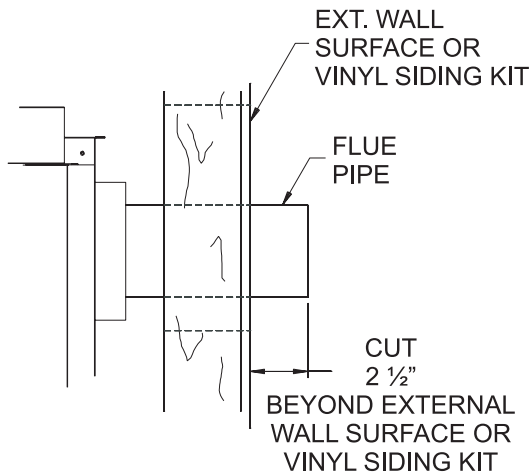

Figure 53
8. Attach the 4" (102 mm) diameter flue outlet tube onto the rigid venting system or directly to fireplace. Ensure the 4" (102 mm) diameter flue outlet tube is placed as far as possible onto the rigid venting system. Mark the 4" (102 mm) diameter flue outlet tube 2-1/2" (64 mm) beyond the vinyl siding kit or wall. See **Figure 53**. Remove the 4" (102 mm) diameter flue outlet tube from rigid venting system. When installing directly to fireplace, tape gasket needs to be used.